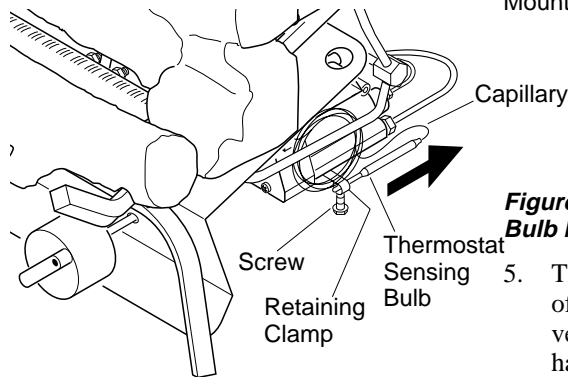

**Figure 36 - Adhesive-backed Mounting Clip**
2. The adhesive-backed mounting clip (see Figure 36) is attached to the thermostat sensing bulb. Remove the adhesive-backed mounting clip.